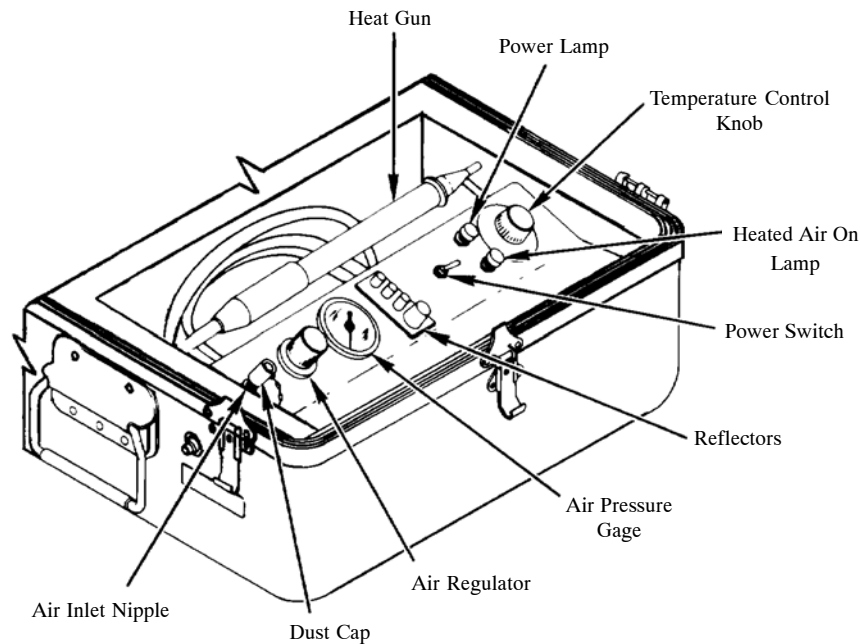

Figure 7. Compressed Air/Nitrogen Heating Tool
15. **Operation.** To operate compressed air/nitrogen heating tool (Figure 7), proceed as follows:
16. **Post-Operation.** After using compressed air/nitrogen heating tool (Figure 7), proceed as follows: